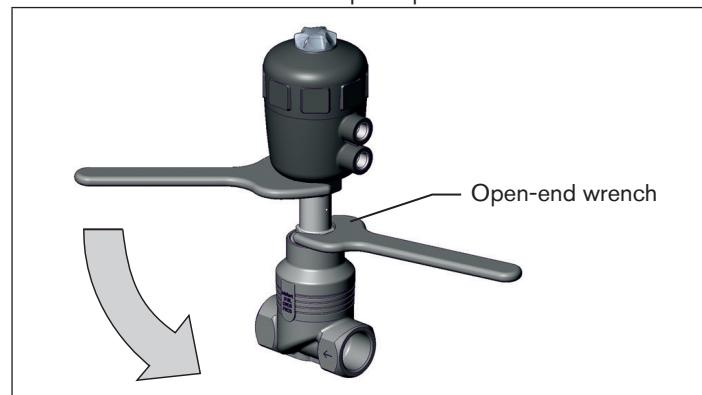

Fig. 19: Turning with open-end wrench
- Rotate the actuator module in the specified direction only (see "Fig. 19").